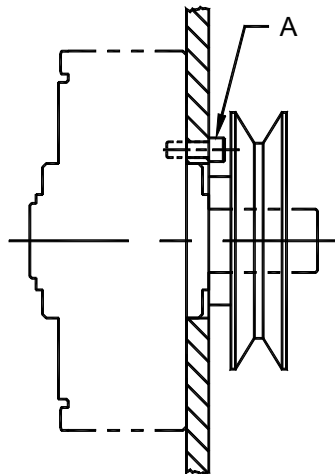

Figure 1
1. Brake units must be securely mounted to a mounting bracket or plate, using three ¼-20 screws and lockwashers (see "A" in Figure 1 and Figure 4).
2. Mount sheave, pulley, or sprocket to output shaft as shown in Figure 1.